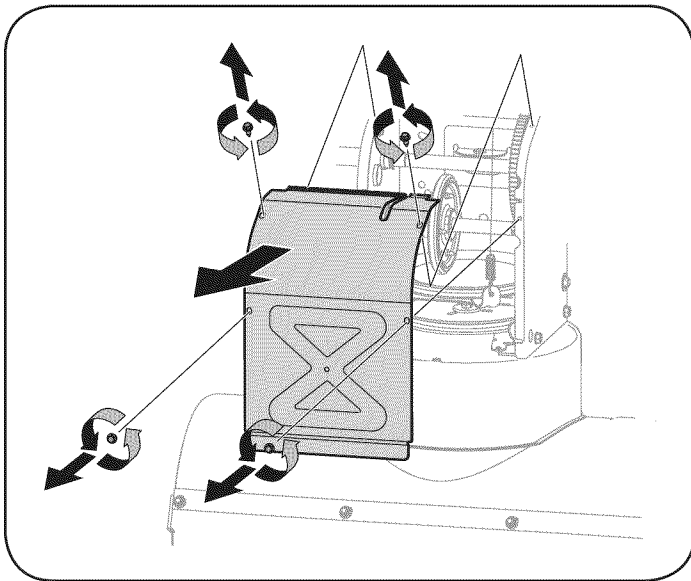

Figure 26
5. Remove the frame cover from the underside of the snow thrower by removing four self-tapping screws which secure it. See Figure 26.